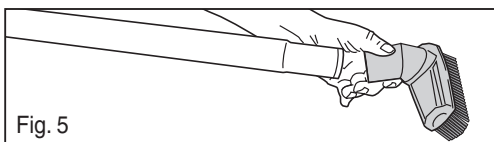

Fig. 5
- For accessories, push tool onto end of wand or directly onto hose handle; twist to tighten (Fig. 5).
Use for furniture, drapes and vents. Push dusting brush onto end of wand (Fig. 5).